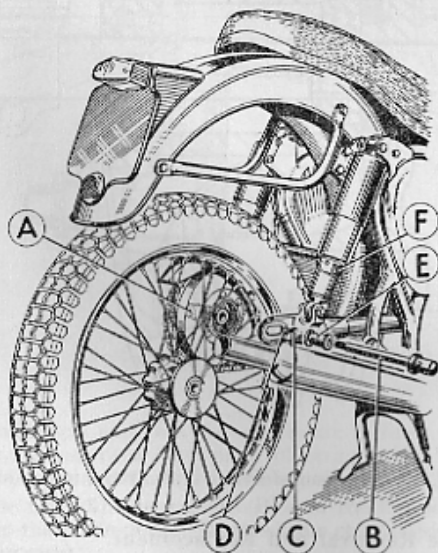

Fig. 16. Rear Wheel Removal.
First put the machine on its centre stand. Whenever the rear wheel is adjusted, the nut securing the torque arm to the brake plate must be slackened slightly so that the plate may pivot freely. Undo the spindle (B) Fig. 16, on the right-hand side of the machine, a few turns, and slacken nut (A) just sufficiently to allow the wheel to move.
Removal of the wheel does not affect the chain or brake adjustment. Remove the spindle (B) Fig. 16. It has a normal right-hand thread and therefore unscrews in an anti-clockwise direction. The distance bush (E) falls clear when the spindle is removed and the wheel can then be pulled away from the brake drum and withdrawn from the machine.